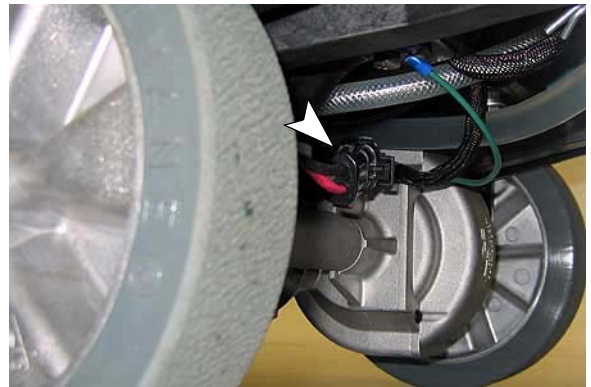

FIG. 51
2. Disconnect the drive motor wire connector to keep machine from moving forward (Figure 51).